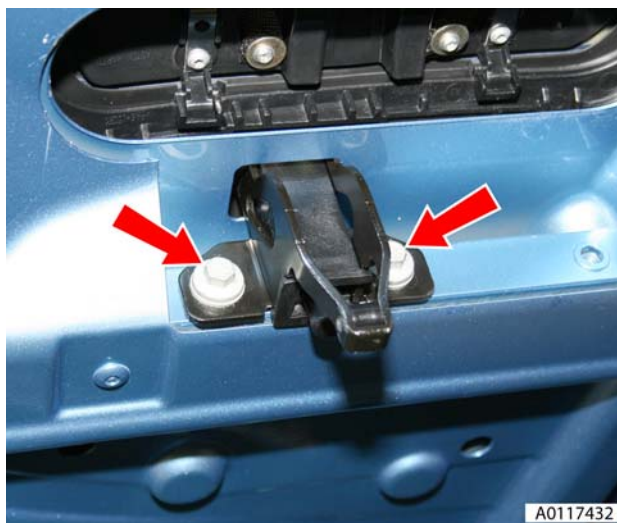

Figure 2
- Remove 2 bolts securing right-hand tonneau striker and remove (see Figure 2).